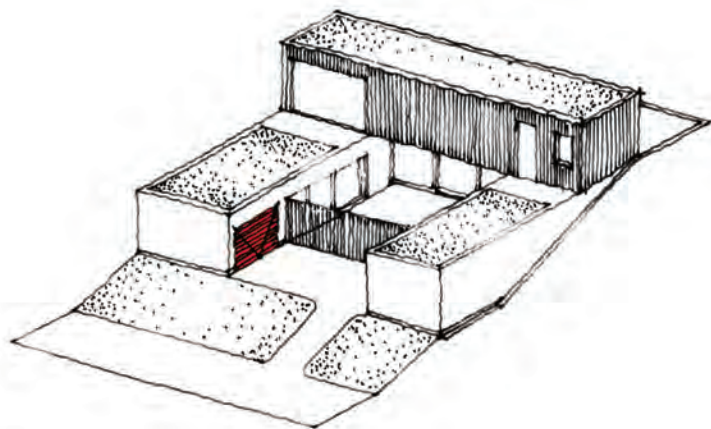
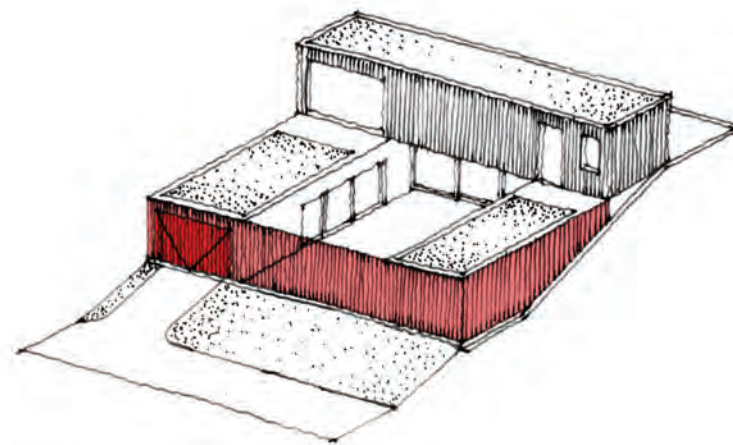

fig 08: Typical diagram illustrating garage door perpendicular to the road
fig 09: Typical diagram illustrating garage door concealed with timber cladding as a continuous element
- Garage doors may not face the street unless treated as a continuous element (see fig.08 & fig.09) through use of cladding